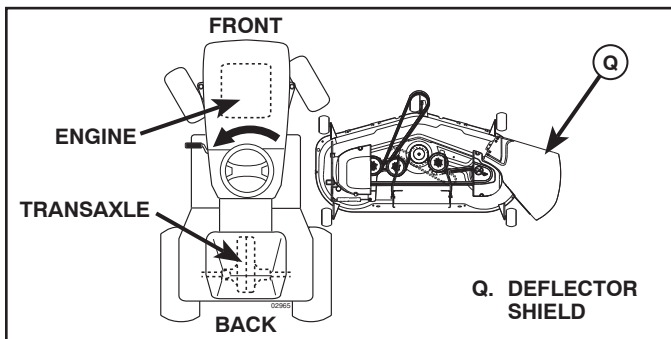

Fig. 6
## 3. TURN STEERING WHEEL LEFT AND POSITION MOWER (See Fig. 6)
## 9 INSTALL BELT ON ENGINE CLUTCH PULLEY (M) (See Fig. 6 & 15)
- Disengage belt tension rod (K) from locking bracket (L).
- Install belt onto engine clutch pulley (M).